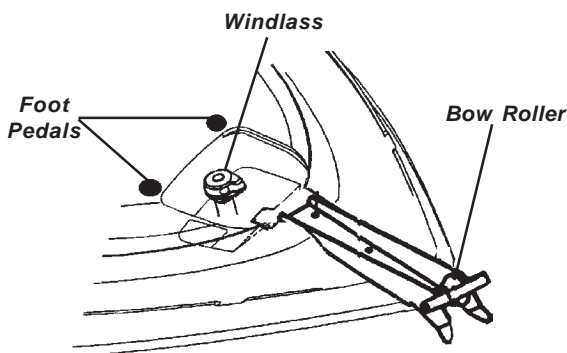

**Figure M6: Bow Roller**
The bow roller assembly is standard equipment on select Sundowner™ models only. The bow roller extends beyond the bow and is integrated with the anchor chute. The function of the bow roller is to allow easier retrieval of the anchor. It also protects the hull/deck from surface abrasions or gouges while either anchored or when retrieving the anchor. Refer to Figure M6. Refer to manufacturer's literature for operation, care and maintenance included in the owner's packet.
4. Position the seat forward or aft according to the needs of the individual by using the lever located underneath the seat. See Figure M6.